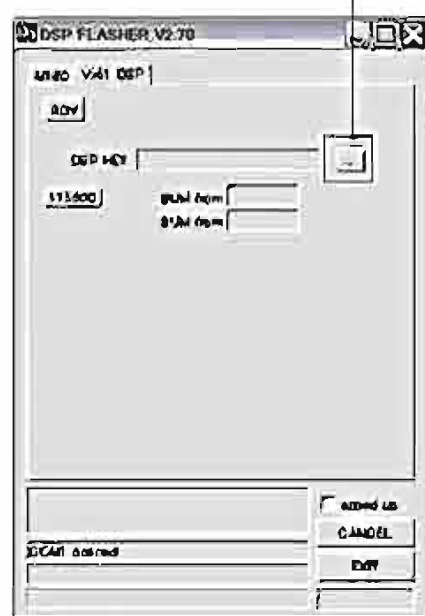

Fig. 5
3. Click [...] and select the firmware name. (Fig. 5)